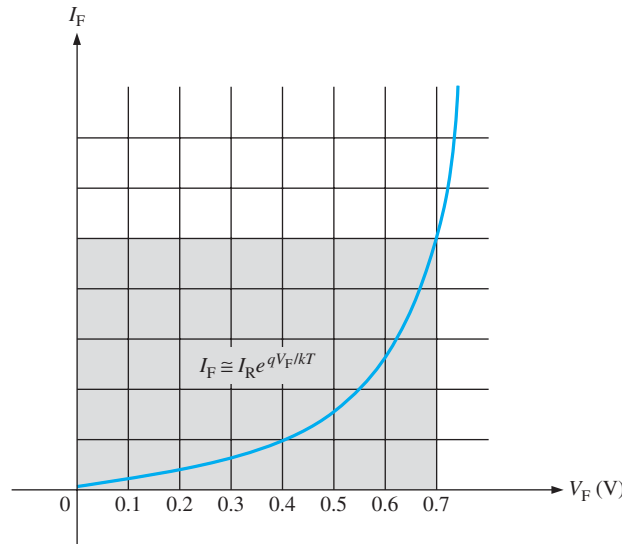

FIGURE 14–29
The semiconductor pn junction in the form of either a diode or the base-emitter junction of a BJT provides a logarithmic characteristic. You may recall that a diode has a nonlinear characteristic up to a forward voltage of approximately 0.7 V. Figure 14–29 shows the characteristic curve, where V_F is the forward diode voltage and I_F is the forward diode current.
Log Amplifier with a Diode When you place a diode in the feedback loop of an op-amp circuit, as shown in Figure 14–30, you have a basic log amplifier. Since the inverting input is at virtual ground (0 V), the output is at $-V_F$ when the input is positive. Since V_F is logarithmic, so is V_{out} . The output is limited to a maximum value of approximately -0.7 V because the diode's logarithmic characteristic is restricted to voltages below 0.7 V. Also, the input must be positive when the diode is connected in the direction shown in the figure. To handle negative inputs, you must turn the diode around.
► **FIGURE 14–30**
An analysis of the circuit in Figure 14–30 is as follows, beginning with the facts that $V_{out} = -V_F$ and $I_F = I_{in}$ because there is no current at the inverting input.